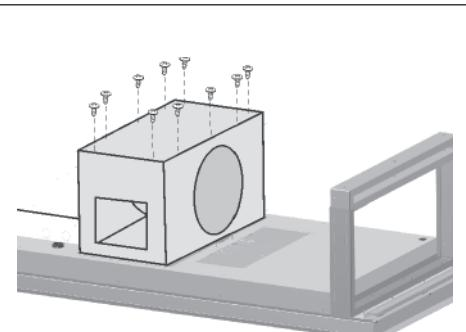

FIG.16
- Remove (10) screws on the top of blower box (Fig.16).